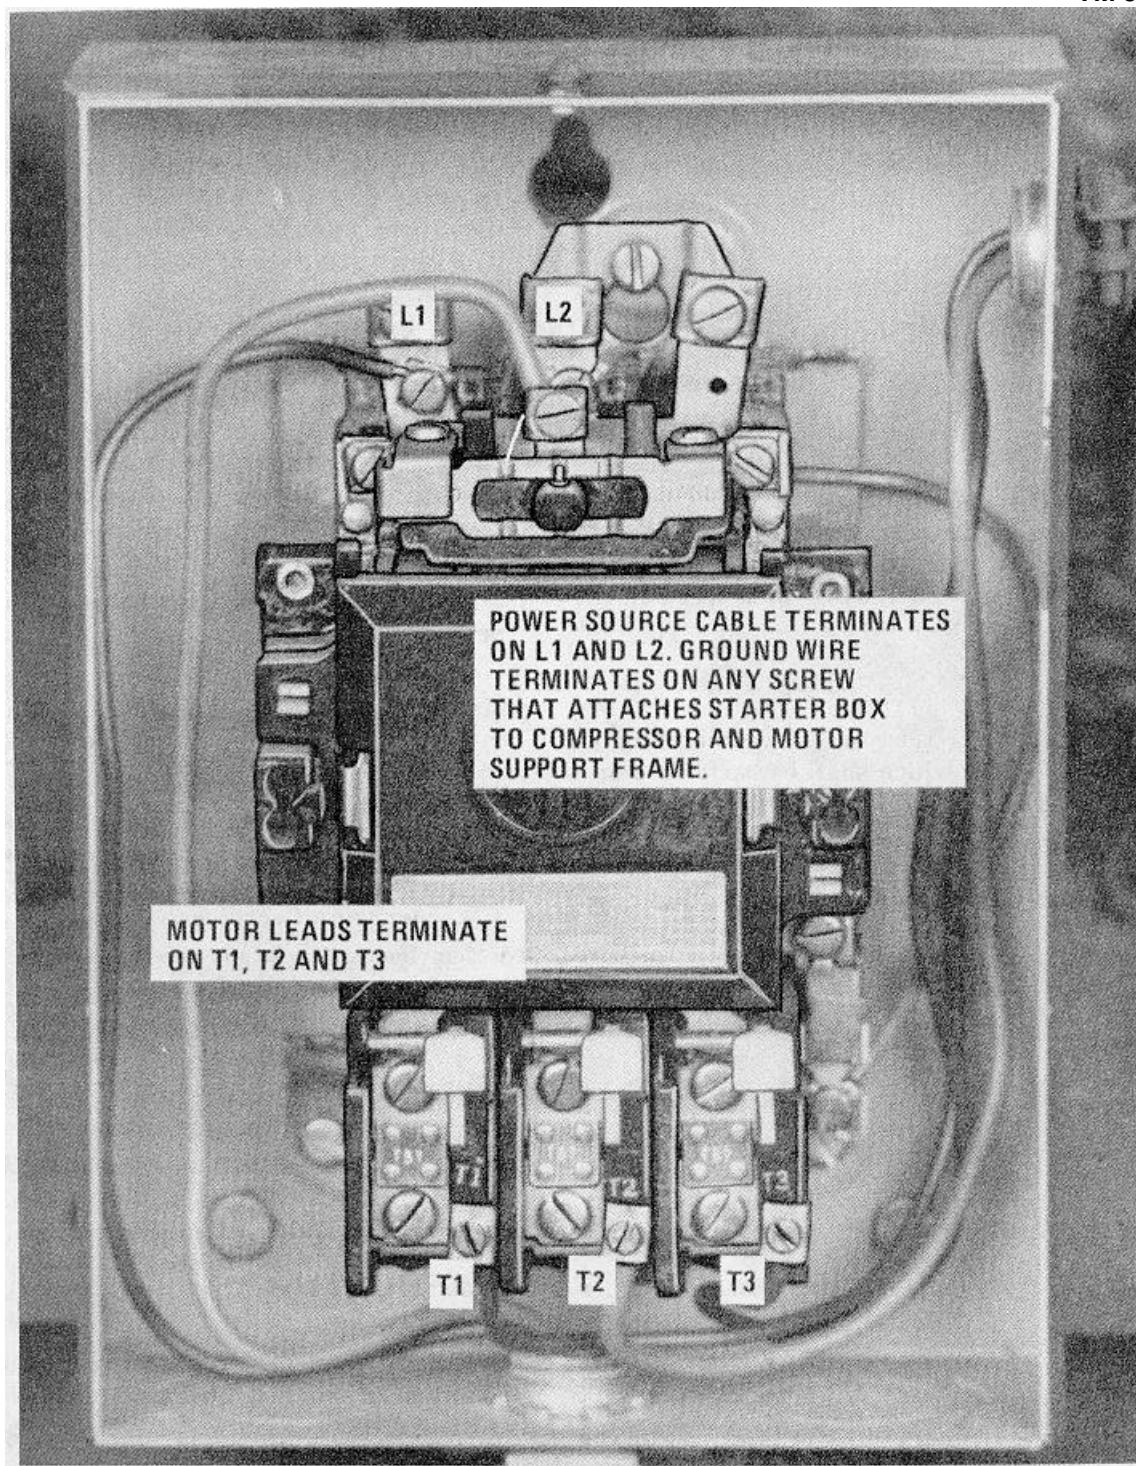

Figure 4-3. Magnetic starter (shown with cover removed).
(1) Remove the cover from the magnetic starter (fig. 4-3).
(2) Remove knockout plug from the starter box and insert the incoming power source wires through the opening.